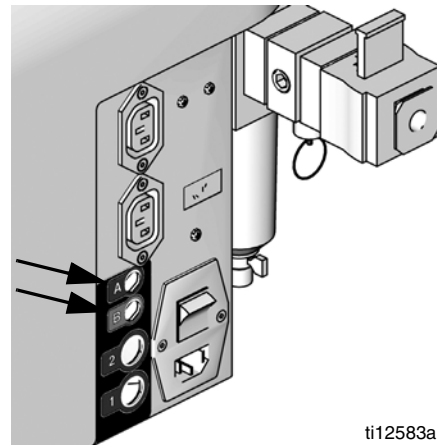

FIG. 8: Tank Refill Kit Power Source
2. For tank refill kits installed on the **A** side tank, plug the tank refill kit power cord into the “A” connector located at the back of the machine. See FIG. 8.
- For tank refill kits installed on the **B** side tank, plug the tank refill kit power cord into the “B” connector located at the back of the machine. See FIG. 8.